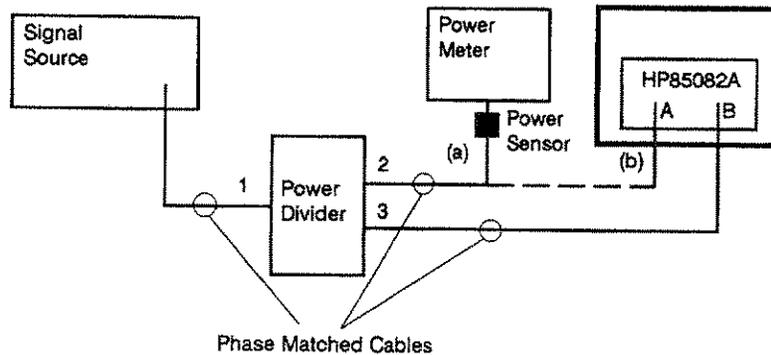

Figure 5-4. Delay Line Adjust Setup
1. Configure the equipment as shown in Figure 5-4 step (a). Connect the power meter to port 2 of the power divider and Channel B of the HP 85082A to port 3, using the phase matched cables.
5. Reconfigure the equipment as shown in Figure 5-4 step (b). Connecting Channel A of the HP 85082A to port 2 of the power divider and Channel B of the HP 85082A to port 3, using the phase matched cables.
7. Reconfigure the equipment as shown in Figure 5-4 step (a).
9. Disconnect the power meter and reconfigure the equipment as shown in Figure 5-4 step (b).